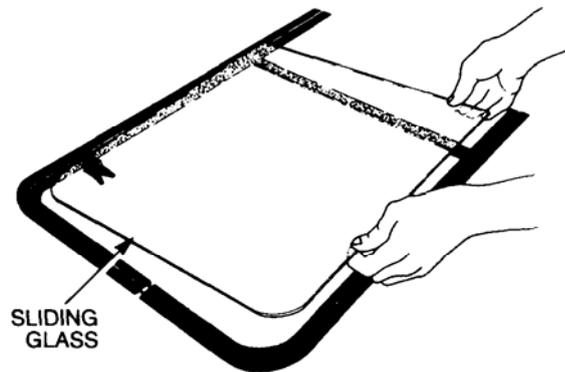

Figure 42 Sliding Glass Removal
- f. Carefully pull the frame halves apart sufficiently to allow the glass to be removed (refer Figure 42).